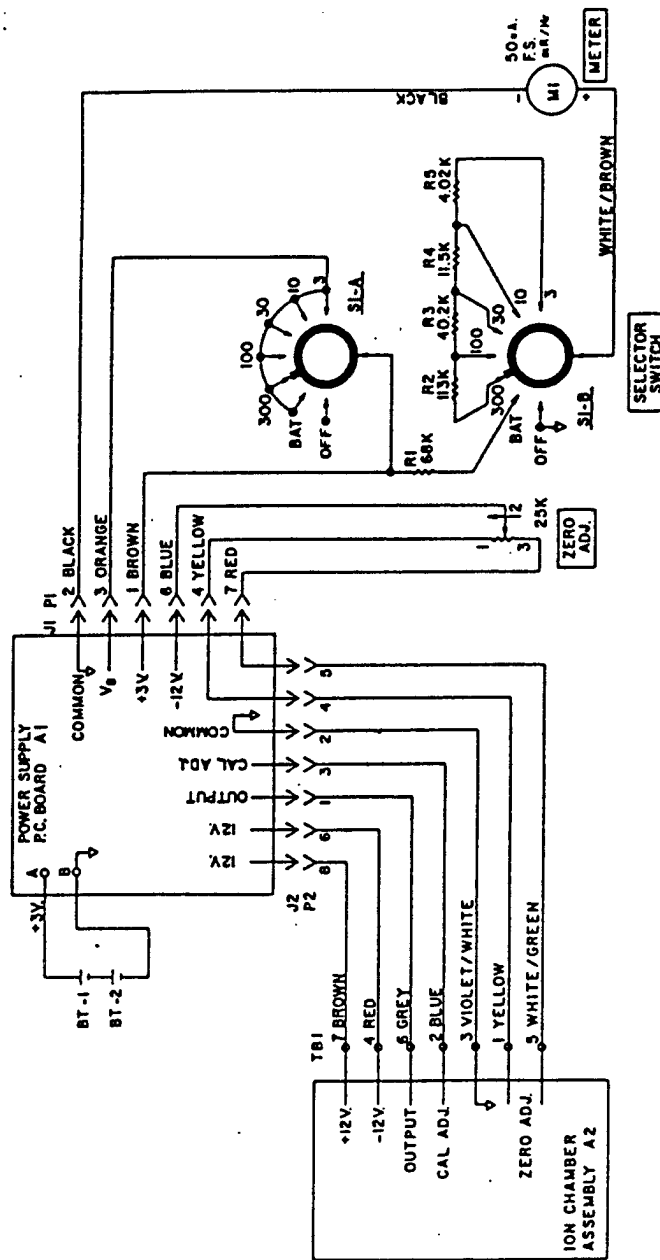

Figure 6-2. SM-400 Overall Wiring Diagram.
b. SM-400 Overall Wiring Diagram (Figure 6-2). Shows the complete wiring diagram showing interconnection of assemblies and components.